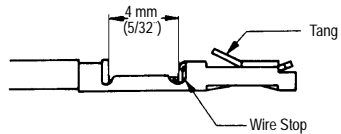

Figure 2
2. Insert the wire up to the wire stop as shown in Figure 2.